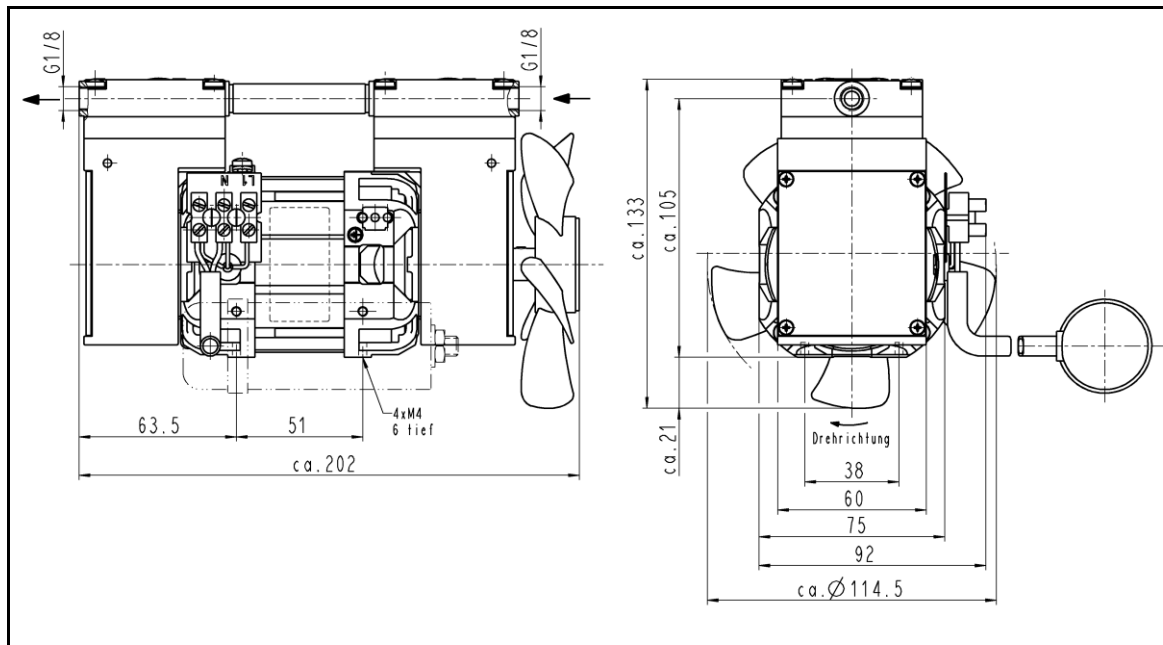
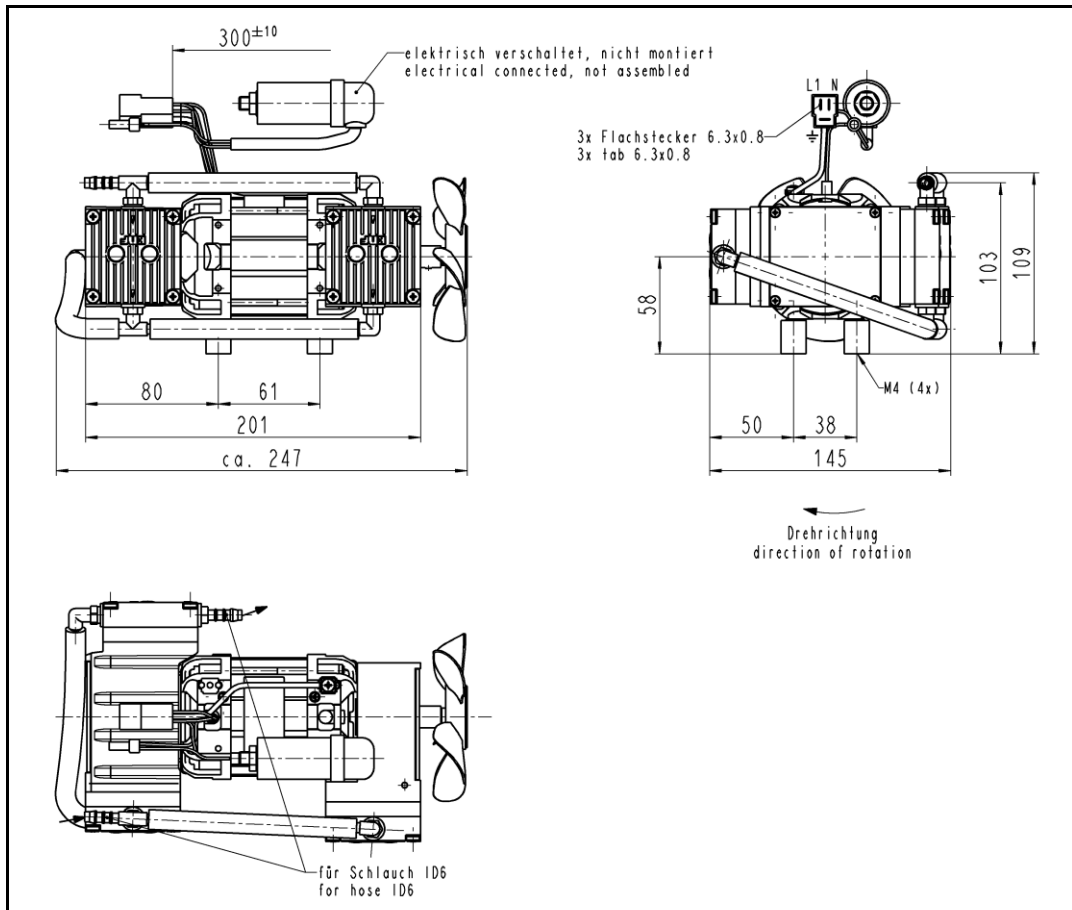

Fig. 4: Mounting dimensions pump N 816.3 KPE
Fig. 5: Mounting dimensions pump N 816.6 KPE
- Mounting dimensions → For the mounting dimensions see Fig. 4, p. 11 (pump N 816.3 KPE) and Fig. 5, p. 12 (pump N 816.6 KPE).